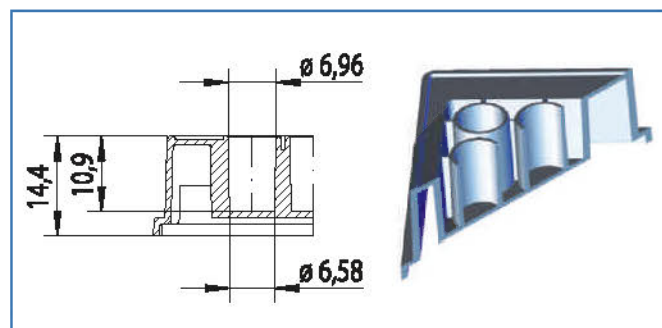

Figure 4:
4. F-Bottom/Chimney Well (Fig. 4)